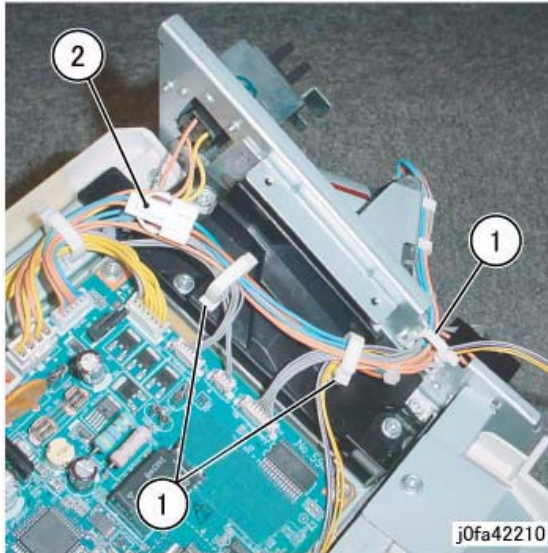

Figure 1 Disconnecting the Connector
6. Disconnect the Connector (Figure 1):